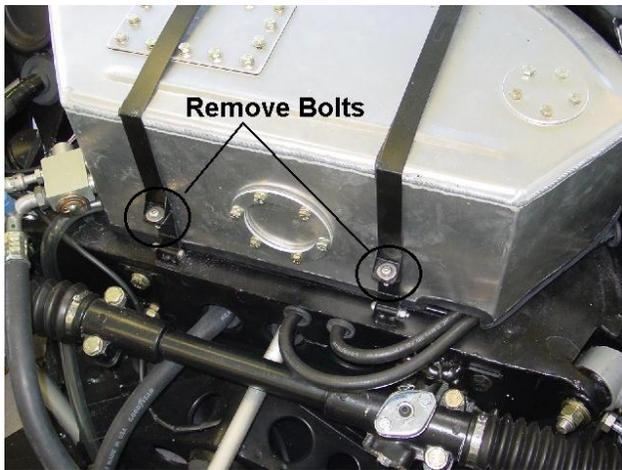

Fig.7
3. Remove the bolts that hold the A/C cover straps in place. *Fig.7* Swing the brackets out of the way and lift the cover off.